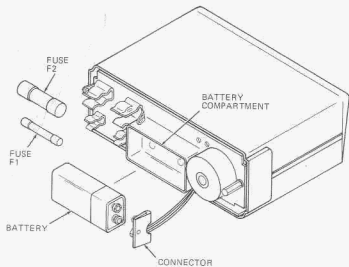

Figure 2-2. Battery and Fuses Replacement
- d. Pull battery (fig. 2-2) with connector from battery compartment.
d. Using a pointed tool such as a probe tip, pry fuse F1 or F2 (fig. 2-2) from fuse clips.